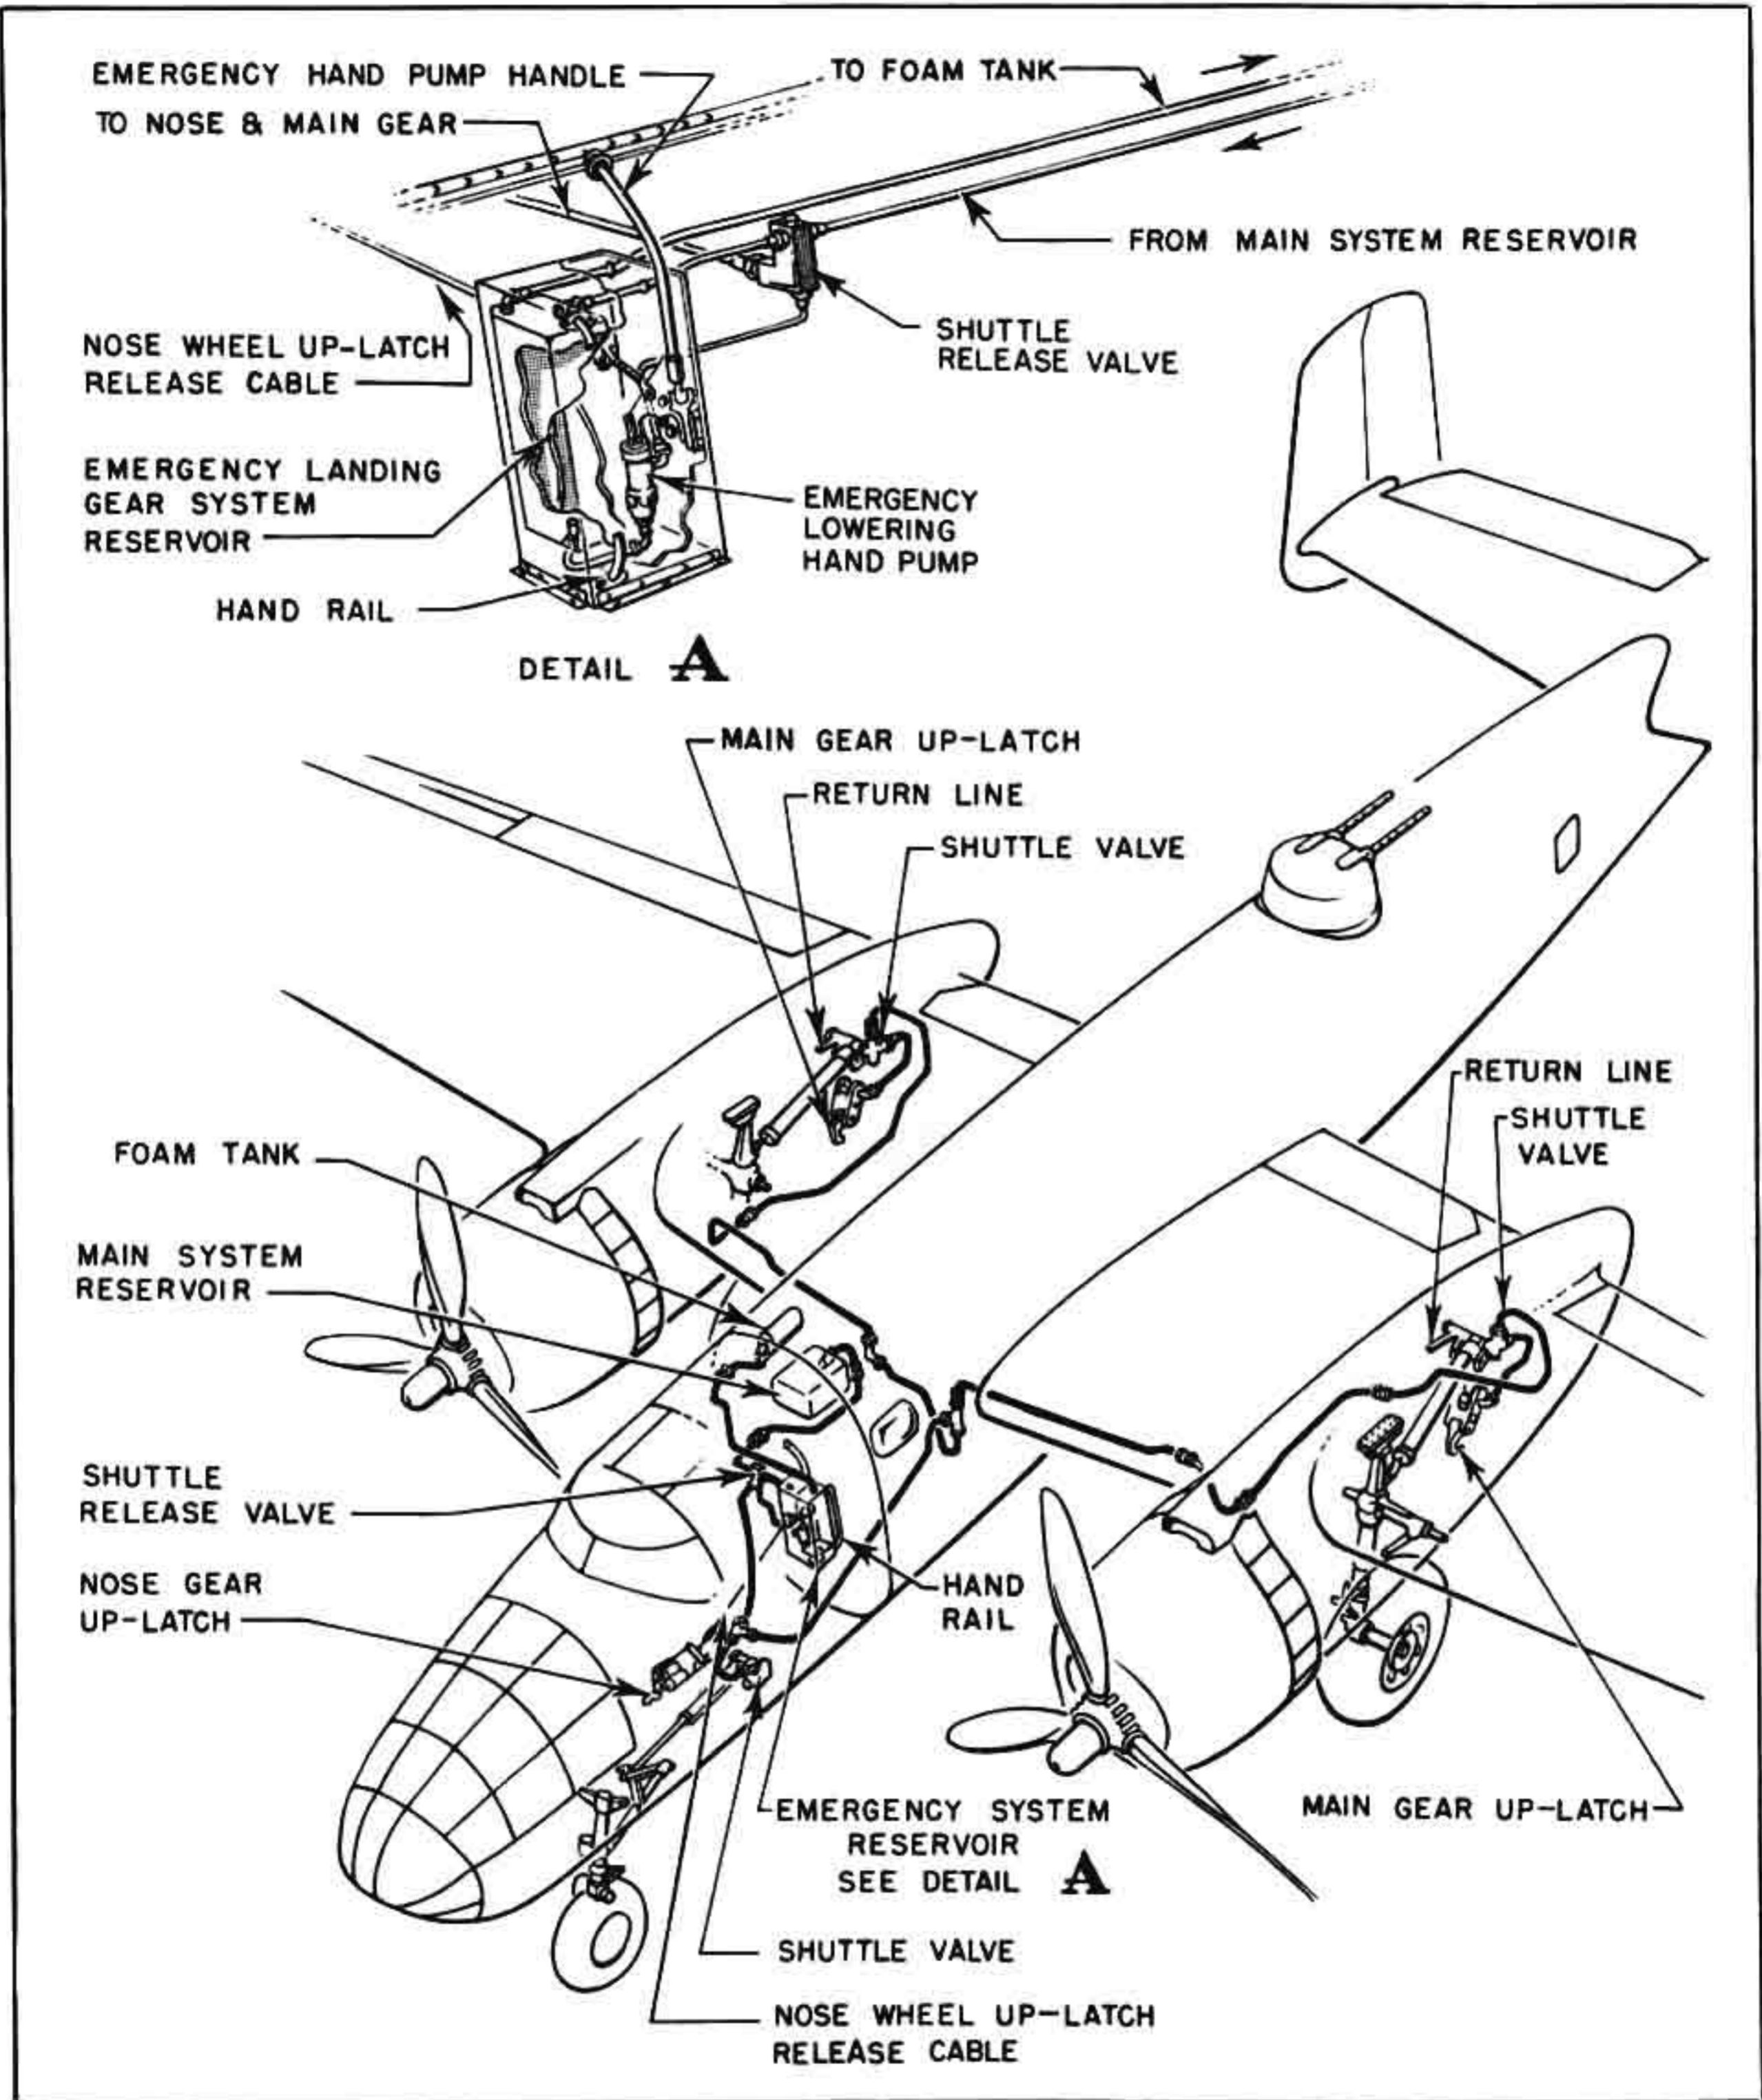

Figure 6—Hydraulic System—Landing Gear Emergency Lowering
b. EMERGENCY.—An emergency hydraulic system, (figure 6), with hand-pump and selector valve located to the right of the pilot's seat, permits operation of the system even though both engine-driven pumps fail, or with the airplane on the ground and the engines inoperative. On B-25C-15-NA and B-25D-10-NA and subsequent blocks, a separate hydraulic system provides for the emergency lowering of the landing gear in the event of complete failure of the general system, with loss of fluid. Earlier airplanes are provided with an emergency mechanical lowering system. All airplanes are equipped with emergency mechanical systems for the operation of the wing flaps and bomb bay doors. A small reserve of fluid is retained under pressure in the accumulator for use if the engine pumps fail. This reserve is not adequate for completely raising or lowering the landing gear, but is sufficient for a one-way operation of the wing flaps, engine cowl flaps, or the bomb bay doors. The brake accumulator retains sufficient pressure for approximately three brake pedal applications (both wheels) even though both engine pumps should fail.